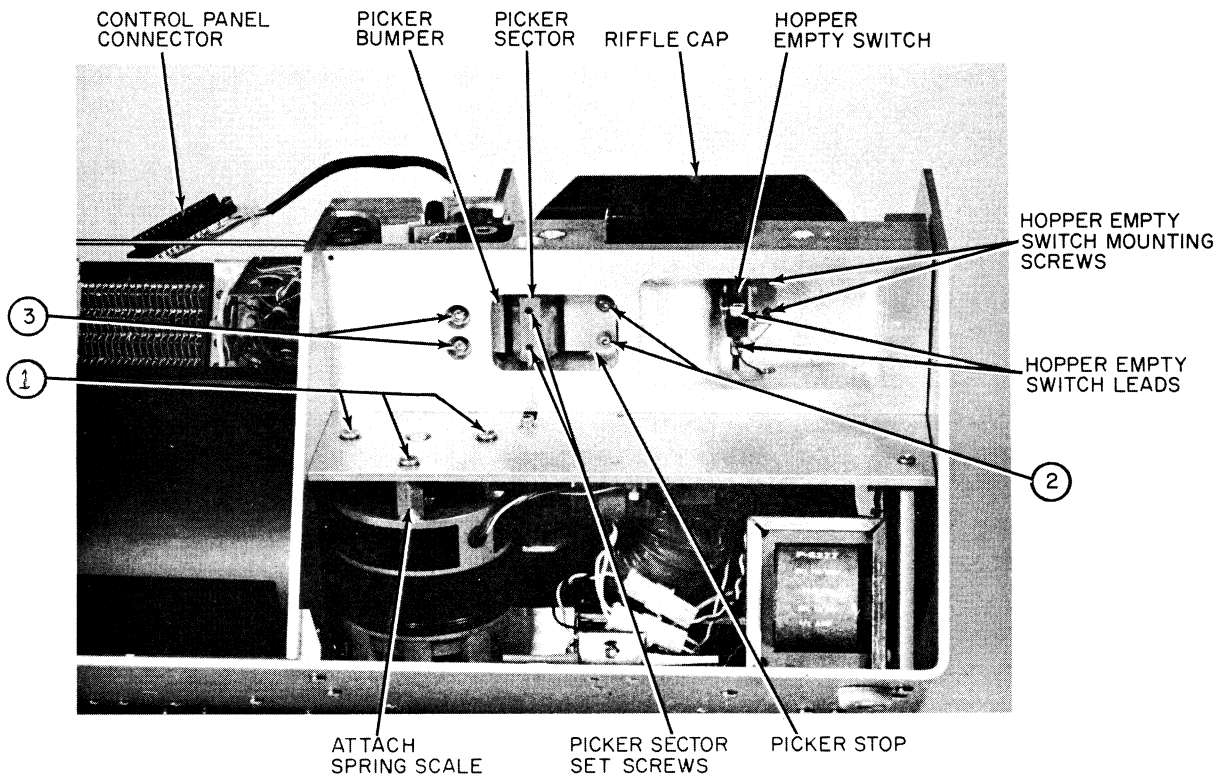

Figure 6-3. Drive Motor Belt Tension Adjustment
- b. Lift cover sufficiently to disconnect the control panel connector, figure 6-3, and remove cover.
- a. Using a Phillips screwdriver, LOOSEN three motor mounting screws (1), figure 6-3.